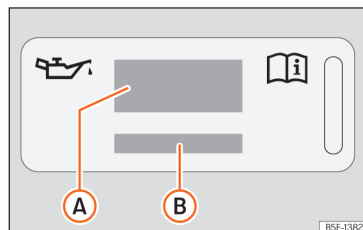
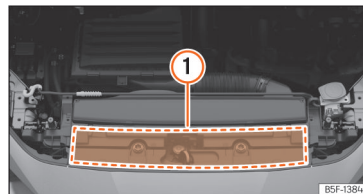

Fig. 286 In the engine compartment: engine oil label
Fig. 287 In the engine compartment: area where the engine oil label is located
Key to the »» **Fig. 286:**
If the engine oil has to be topped up, use one of the oils shown on the label »» **Fig. 286**. The label with the prescribed standard is located at the front of the engine compartment »» **Fig. 287** ①. If you use the recommended engine oil, you can top up the oil as often as necessary.